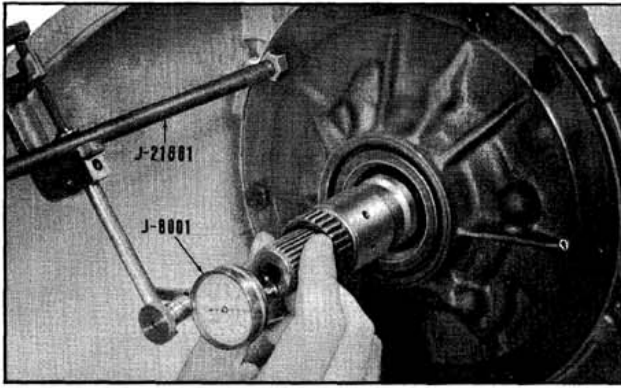

Fig. 6-54 Checking Front Unit End Play
4. Make front unit end play check as follows: (Fig. 6-54)